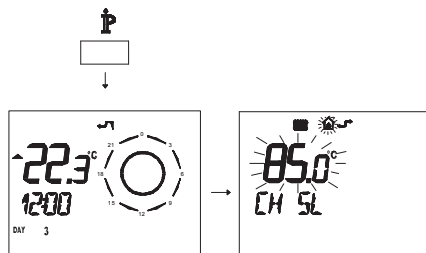

Fig. 7.22
- Press button **ⓘ** for more than 3 seconds to enter in *INFO* (Fig. 7.22) mode.